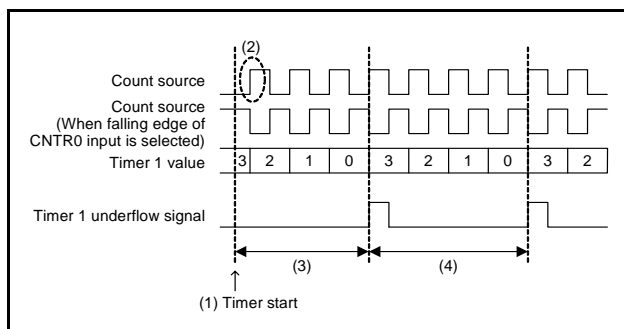

Fig 61. Timer count start timing and count time when operation starts
Count starts from the first rising edge of the count source (2) in Figure 61 after prescaler and timer operations start (1) in Figure 61.
Time to first underflow (3) in Figure 61 is shorter (for up to 1 period of the count source) than time among next underflow (4) in Figure 61 by the timing to start the timer and count source operations after count starts.